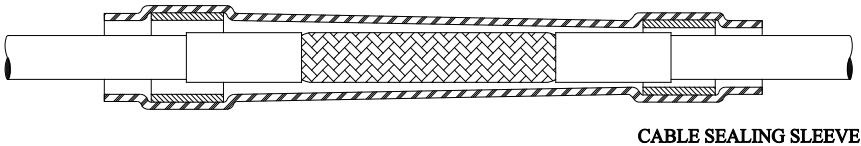

Figure 5
- E. Center the cable sealing sleeve over the splice area. Ends of sealing sleeve should overlap outer jacket of cables by at least ¼ inch (Figure 5).